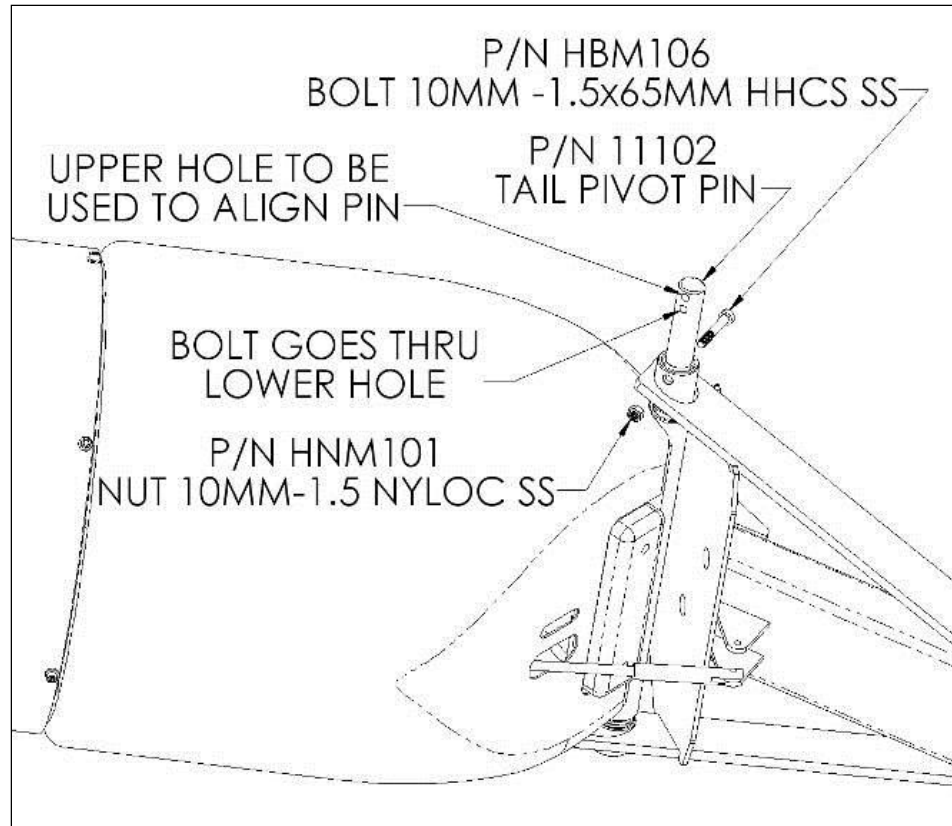

Figure 8: Excel Tail boom and Pivot Pin
- d. Hold the tail boom in a position so the end with the fin is angled up ~ 15° and align the tail bushings with those of the powerhead, then insert the tail pivot pin as shown in **Figure 8**. The pin may need tapping through, but keep in mind that the stainless steel pin can be damaged if it is handled incorrectly. Use a block of wood or rubber mallet on the pin.